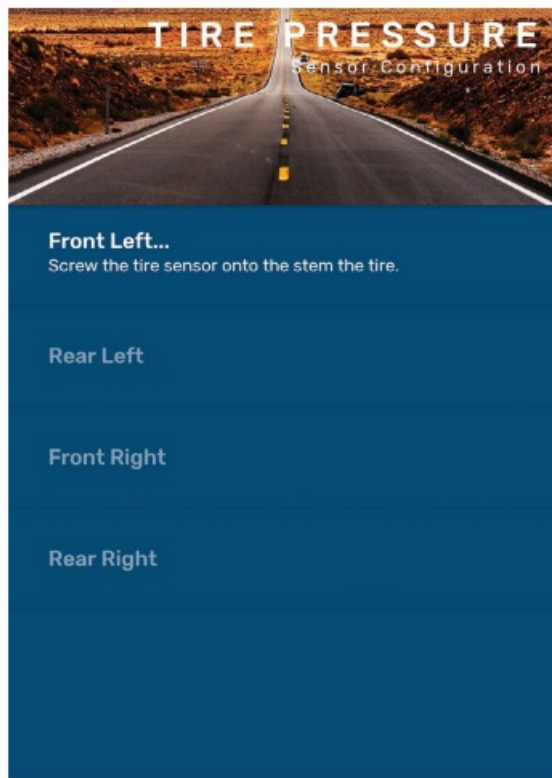

Fig.13
A. Select the Learn Sensors button (**Fig.12A**) in the TIRE PRESSURE app screen. The app will display a list of tires with instructions to screw the first stem sensor onto the Front Left tire stem (**Fig.13**).